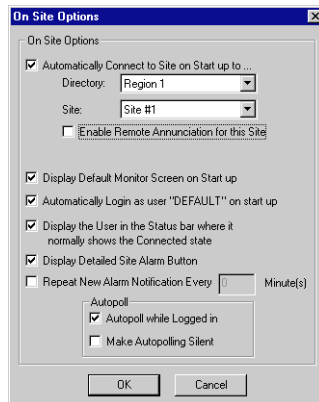

Figure 8 - On Site Options
4. If UltraSite will be used on-site to communicate using direct connect or network, check the Enable On Site Options box (*Figure 8*), and click the Advanced Options button to call up the on-site options box.